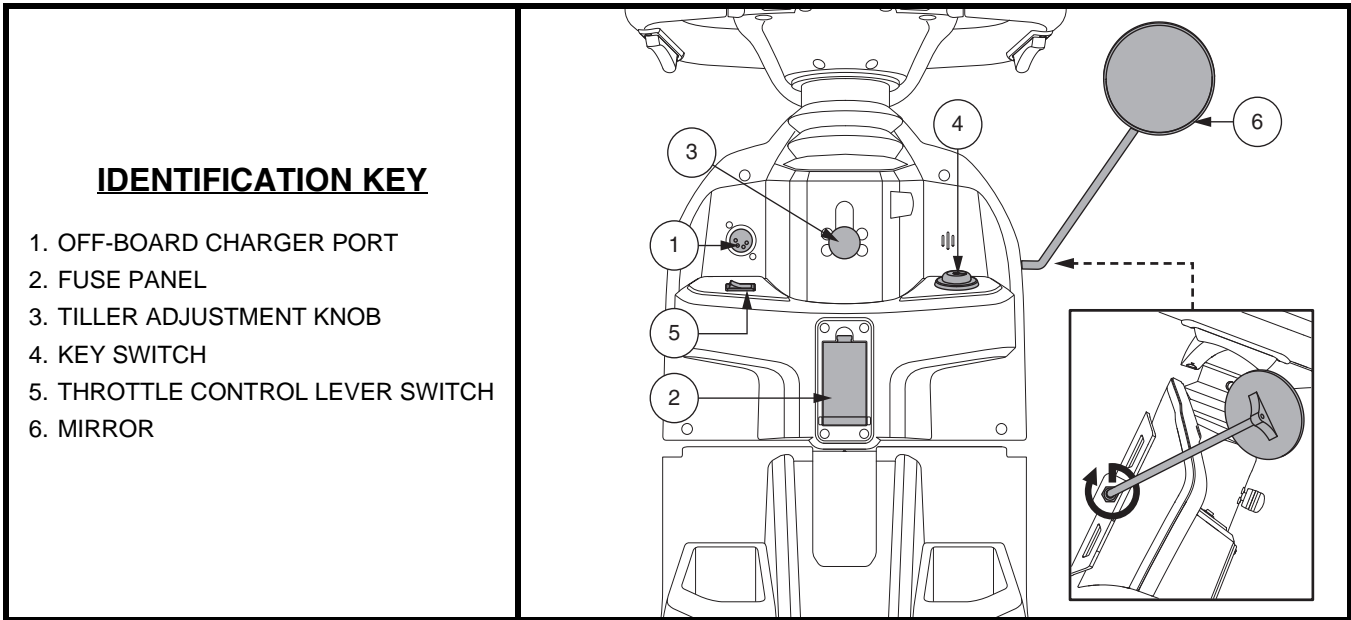

Figure 4. Lower Tiller Components
The off-board charger power lead plugs into this port during battery charging. The off-board charger port will be located on the tiller. See figure 4.
- Insert the key into the key switch and turn it clockwise to power up (turn on) your PMV. See figure 4.
This switch dictates which throttle control lever (left or right) will function. See **figure 4**.